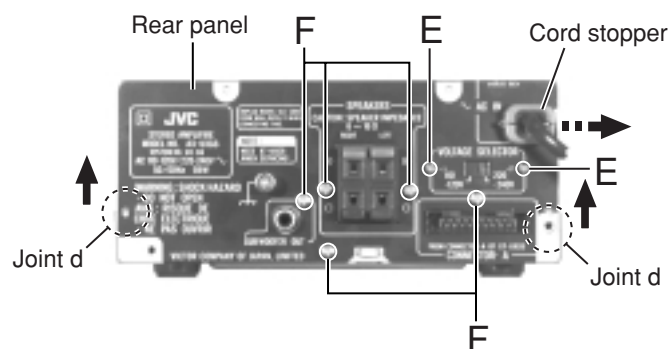

Fig. 9
■ Removing the rear panel and the voltage selector (See Fig.9)
3. Remove the cord stopper and the voltage selector as shown in Fig.9.